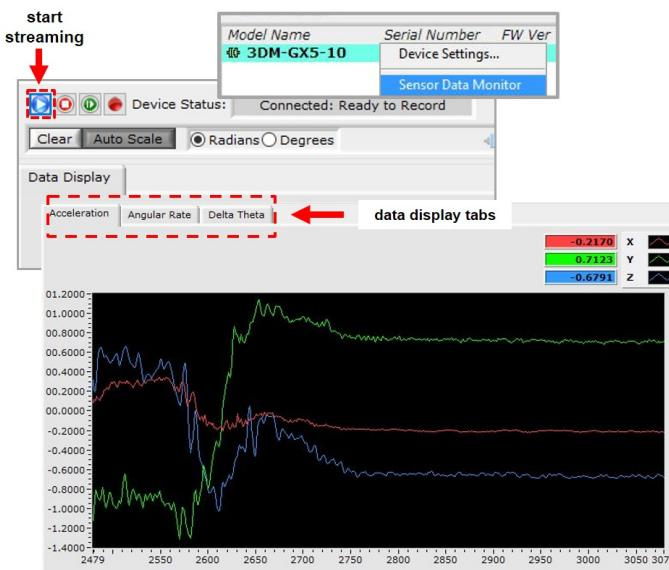

Figure 12 -Data Streaming
*Figure 12 - Data Streaming* is an example of Sensor Data Monitoring, which displays the selected IMU/AHRS measurements. In data monitoring windows, no data will be displayed until data streaming is started, and no data will be recorded (even if it is being viewed) until data recording is initiated (armed). In the example below, the y-axis of the graph indicates data points, the x-axis is the measurement units, and there is a tab for each measurement.